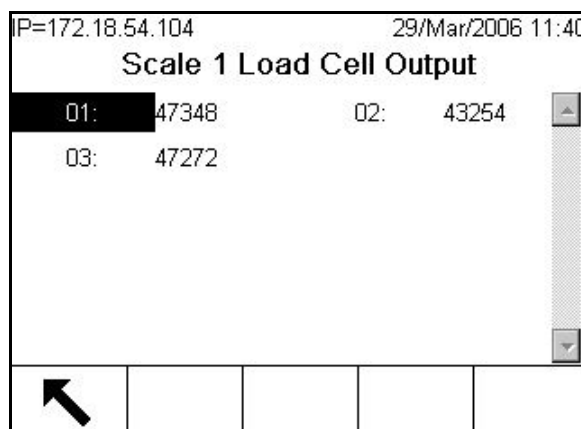

Figure 3-19: Load Cell Output Screen
- **Load Cell Output**—Displays the current load cell output (active weight) for the scale (Figure 3-19). The numbers in the scale below feature load cell addresses for each output. For digital load cells, individual cell counts will be displayed. Individual cell counts are the raw output of the load cells, which the indicator translates into weight by calculation, using information it acquires through the calibration process.